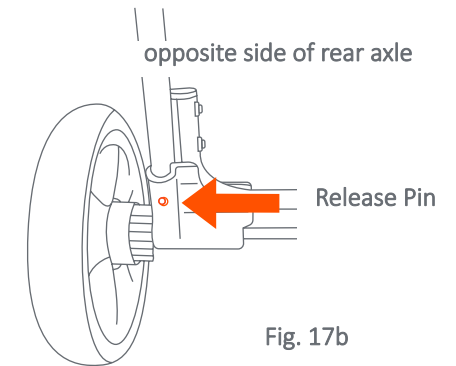

Fig. 17b
**If replacing the rear wheel:** Press the release pin to disconnect (Fig. 17b). Repeat for the other side.